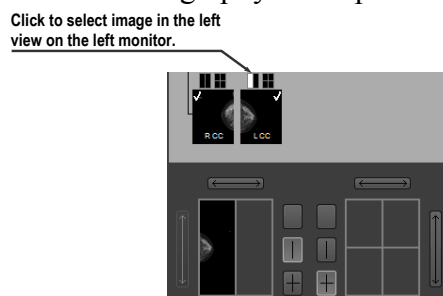

Figure 444 – Selecting an image to view using the rectangle indicator
- Click the desired rectangle in the screen position indicator representing the view in the working area (see Figure 444). The image is displayed in the appropriate view in the mammography workspace on the left or right monitor.